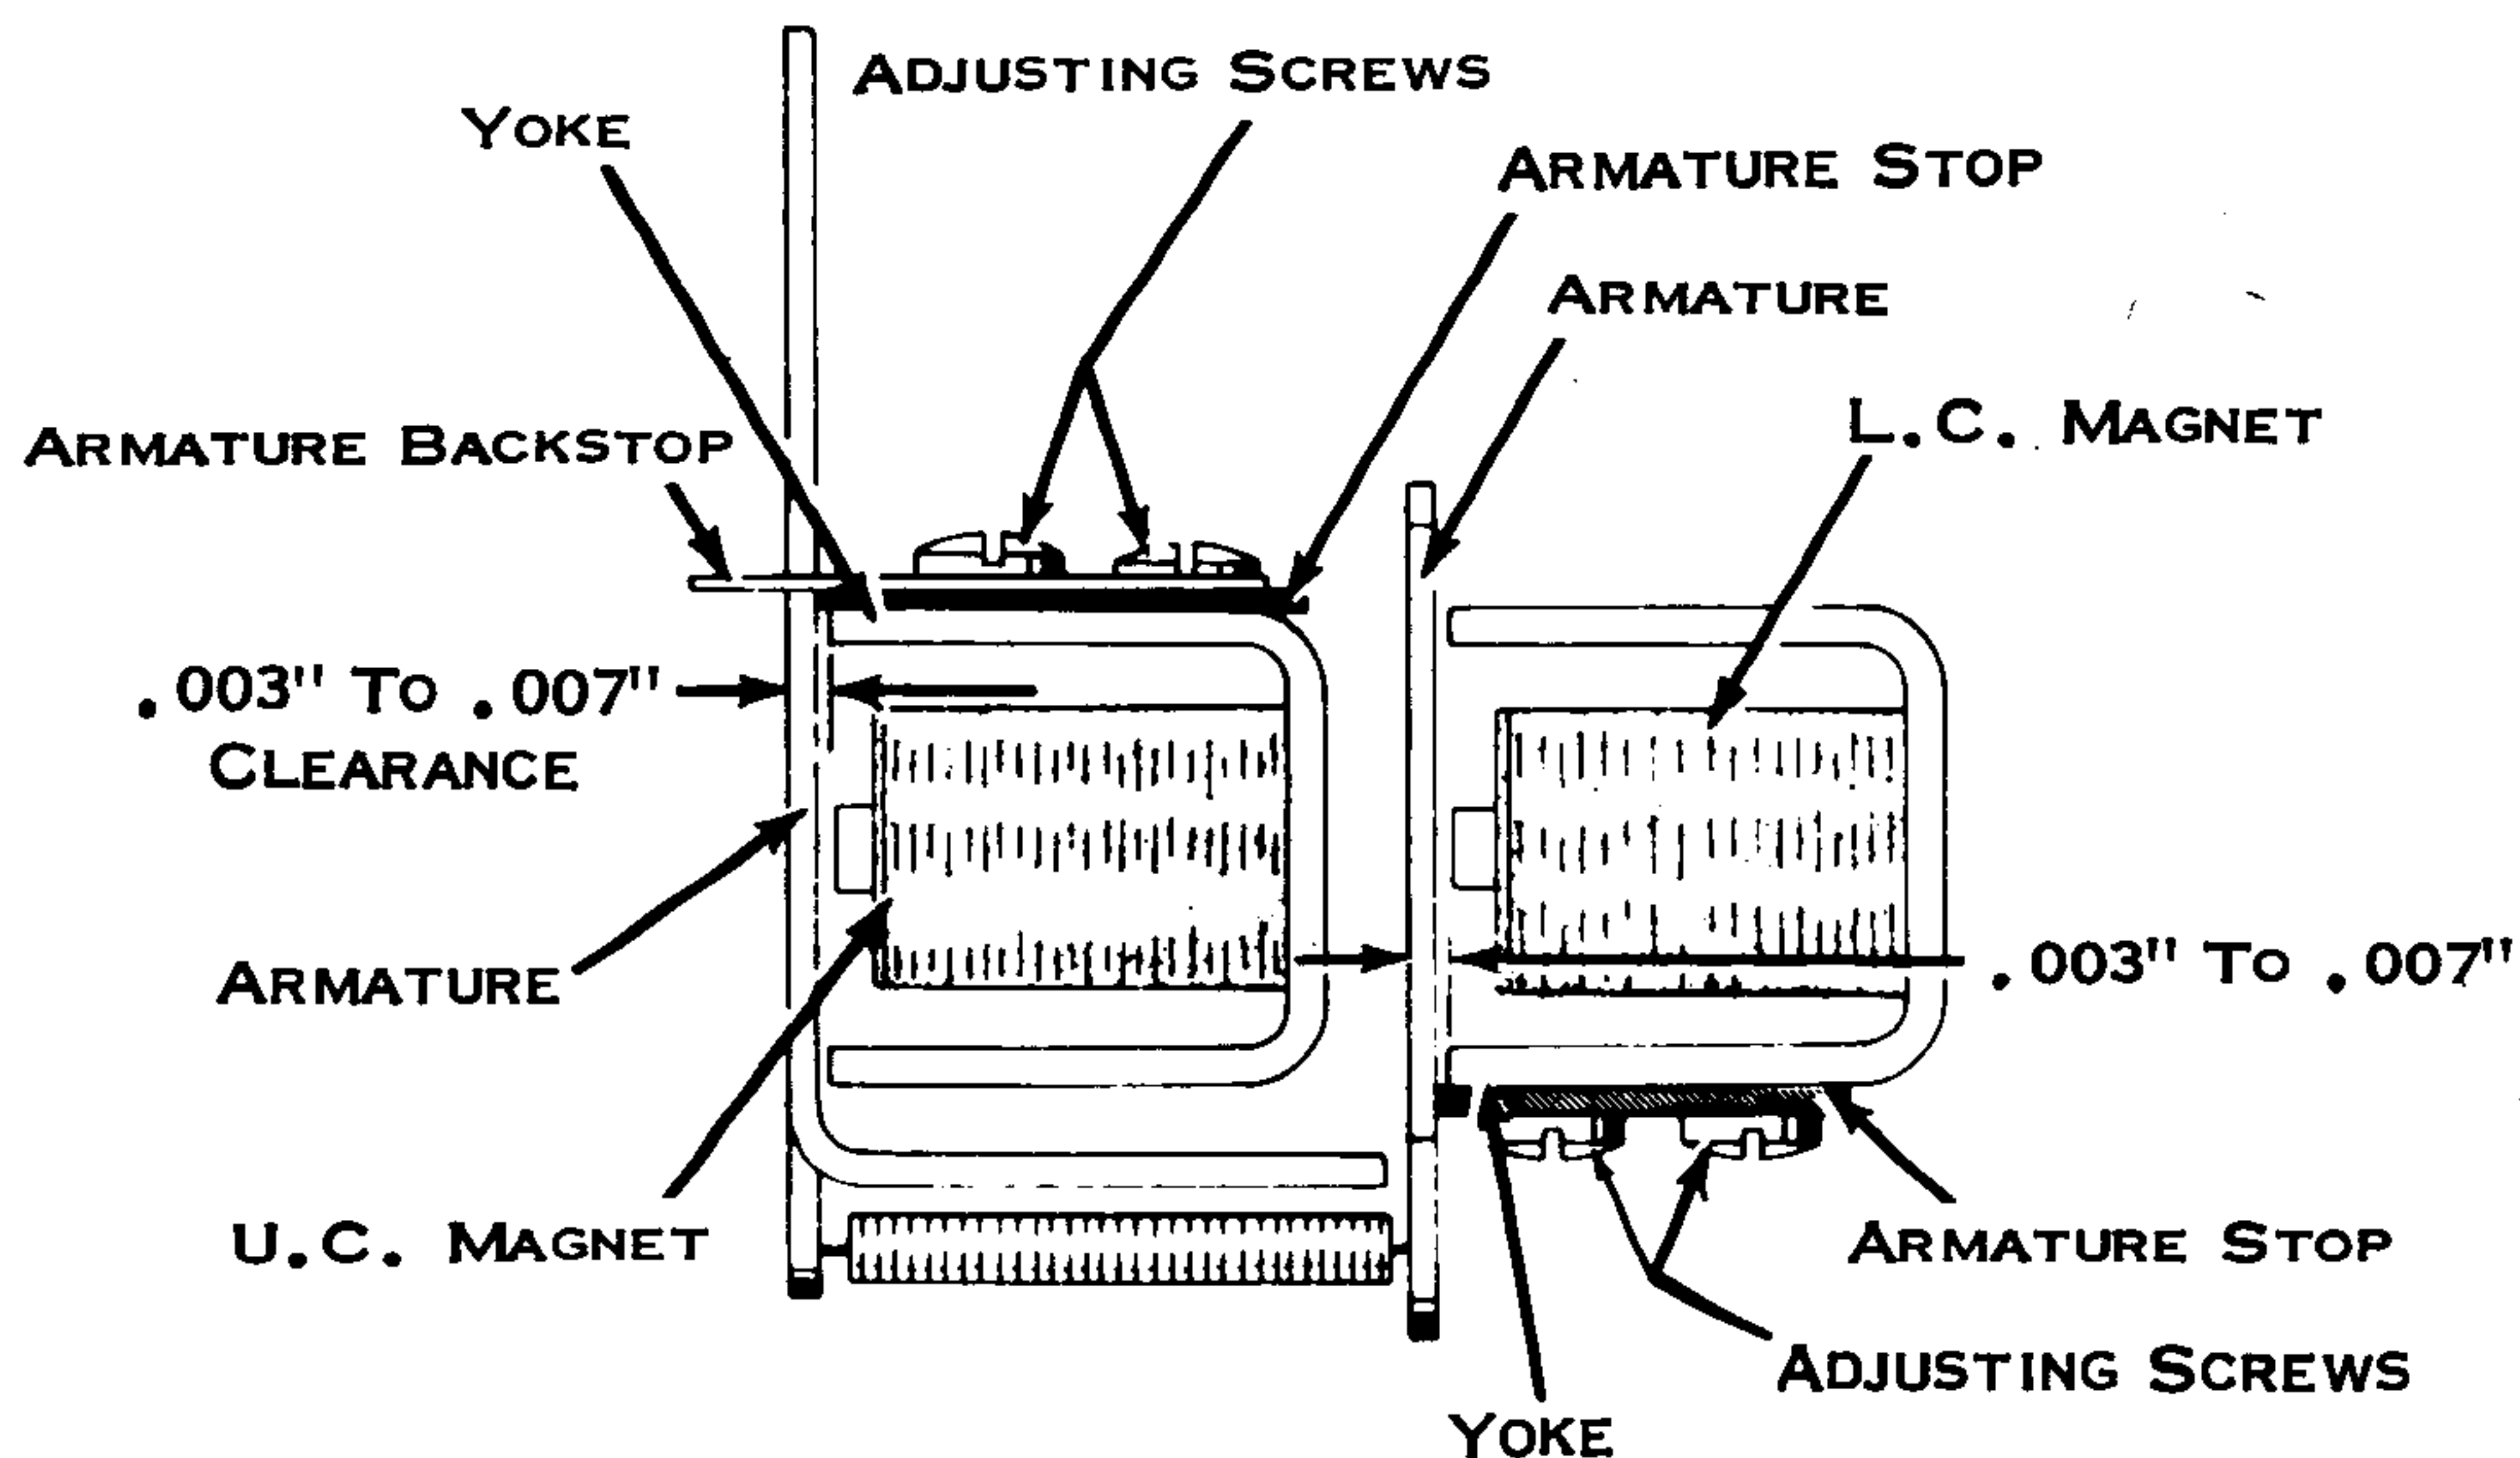

Figure 94. Armature Stops
2. Armature Stops (Fig. 94) - Position (magnets energized) so that the armatures clear their yokes by .003" to .007".